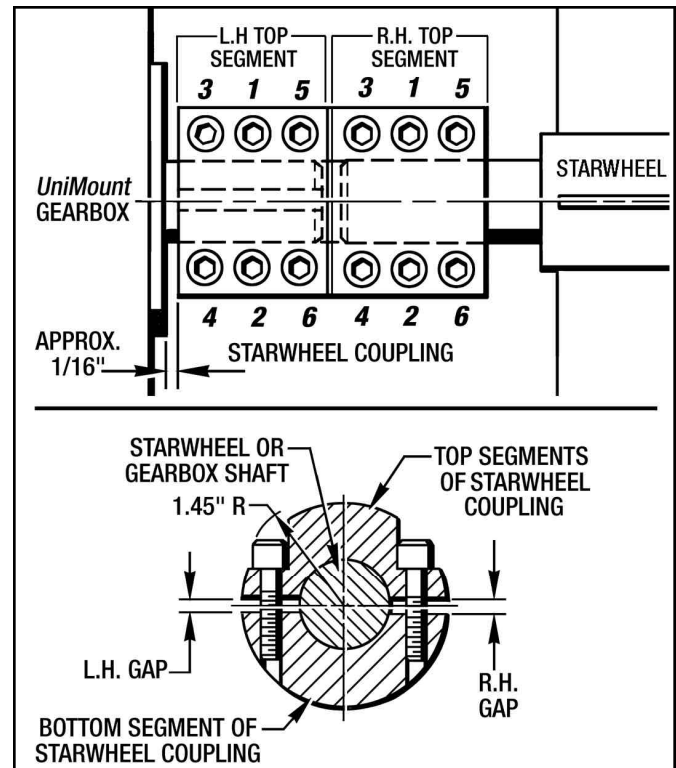

Figure 4.6 - Torque Pattern for Drive Coupling Screws
2. Place the Gearbox back into position on the Auto Catcher Frame or Mounting Plate. Attach the Gearbox with (4) 1/2"-13 Mounting Screws and Lockwashers. **Torque to 60 Lb. Ft. (81Nm).**
4. Re-attach both Drive Couplings that was removed with the (24) 5/16"-24 x 1-3/8" Lg. Cap Screws and Lockwashers. The Starwheel Couplings should be approx. 1/16" from the Gearbox face as shown in Figure 4.6.
5. Torque in an even manner and pattern as shown in Figure 4.6. **Torque to 27 Lb. Ft. (38 Nm).** Make sure the L.H. Gap and the R. H. Gap between the top segment and the bottom segment is the same on both sides as shown in Figure 4.6.